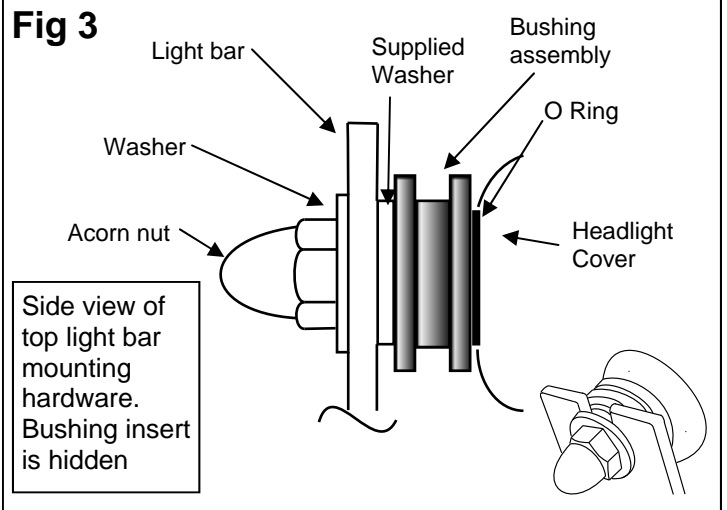

Fig 4a
6. Slip the fairing and the mounting plates onto the upper and lower bushings, and secure the left and right locking mechanism. (See Figs 4a and 4b). Tighten all four light bar acorn nuts.